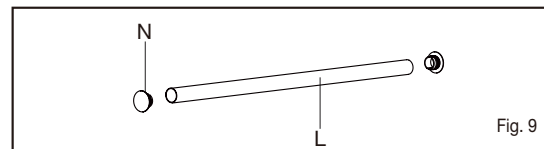

Fig. 9
- ☐ Push end caps (N) into both ends of closet rod (L) (see Fig. 9).